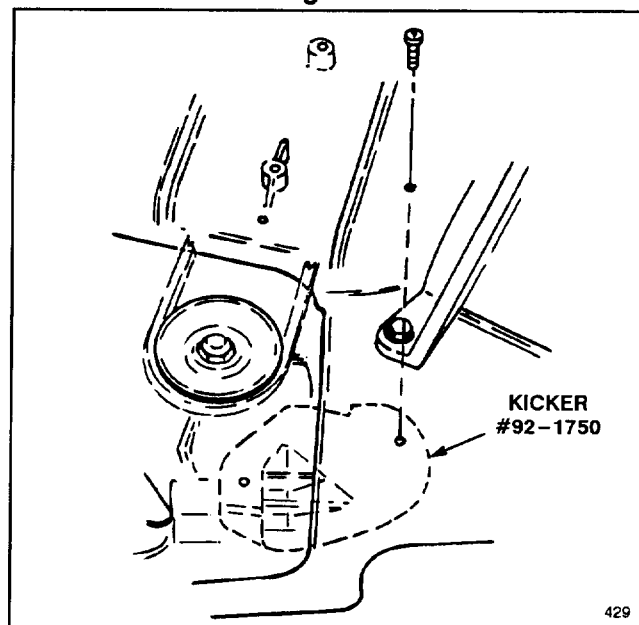

Figure 7
7. **SELF-PROPELLED MODELS ONLY**—Position kicker #92-1750 as shown in Figure 7. Repeat step 5 to secure kicker to deck.